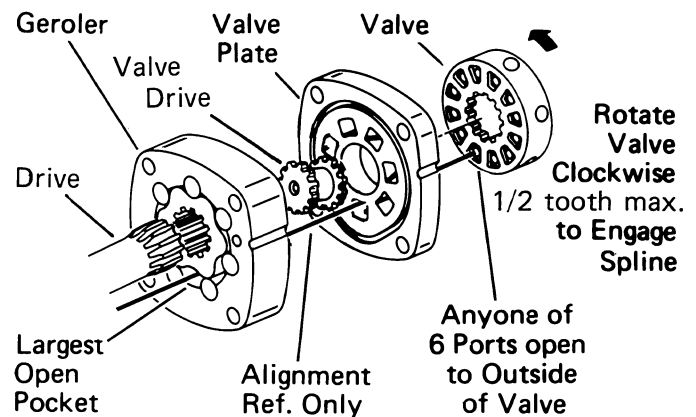

Figure 12 Timing Alignment
**34** Align the notch on the outside of the valve plate with the notch on the Geroler as shown in Fig. 12.